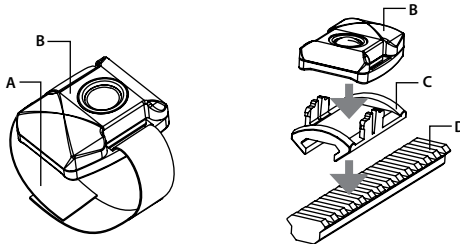

FIGURE 3-10. ADVANCED WIRELESS REMOTE CONTROL
Using Velcro tape (A, Figure 3-10), fasten the remote control (B) to your weapon in an easily accessible place (e.g., on the front of the rifle stock).